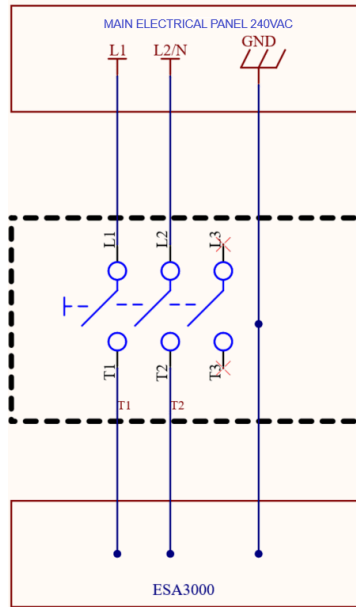

Figure 24 Wiring diagram
- b. Figure 24 illustrates the wiring diagram required to power each ESA-3000. The *Load* side is already connected by ESA; the licensed electrician must connect the *Line* (Supply) side according to the wiring diagram shown in Figure 24.